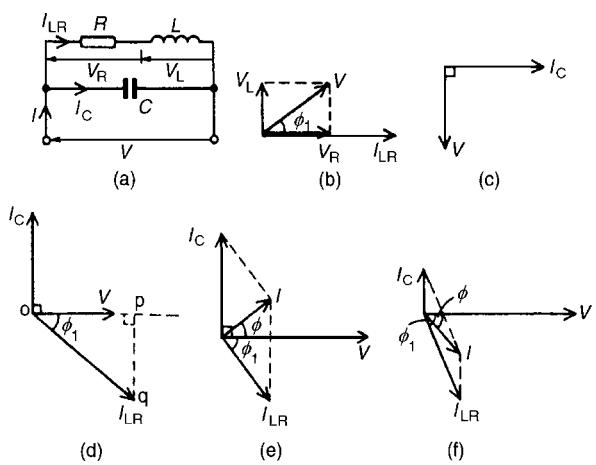

Figure 16.5
In the two branch circuit containing capacitance C in parallel with inductance L and resistance R in series (such as a coil) shown in Fig. 16.5(a), the phasor diagram for the LR branch alone is shown in Fig. 16.5(b) and the phasor diagram for the C branch is shown alone in Fig. 16.5(c). Rotating each and superimposing on one another gives the complete phasor diagram shown in Fig. 16.5(d)
The current I_{LR} of Fig. 16.5(d) may be resolved into horizontal and vertical components. The horizontal component, shown as op is $I_{LR} \cos \phi_1$ and the vertical
- $I_C > I_{LR} \sin \phi_1$ (giving a supply current I leading V by angle ϕ —as shown in Fig. 16.5(e))
- $I_{LR} \sin \phi > I_C$ (giving I lagging V by angle ϕ —as shown in Fig. 16.5(f))
There are two methods of finding the phasor sum of currents I_{LR} and I_C in Fig. 16.5(e) and (f). These are: (i) by a scaled phasor diagram, or (ii) by resolving each current into their '**in-phase**' (i.e. horizontal) and '**quadrature**' (i.e. vertical) **components**, as demonstrated in problems 6 and 7. With reference to the phasor diagrams of Fig. 16.5:
Resonance occurs in the two branch network containing capacitance C in parallel with inductance L and resistance R in series (see Fig. 16.5(a)) when the quadrature (i.e. vertical) component of current I_{LR} is equal to I_C . At this condition the supply current I is in-phase with the supply voltage V .